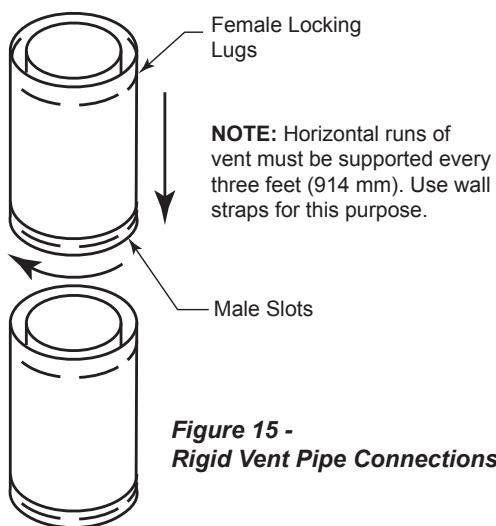

**Figure 14 - Rear Vent Application,
- The maximum horizontal distance between the rear of the appliance and the termination is 20" (508 mm). *Figure 14*